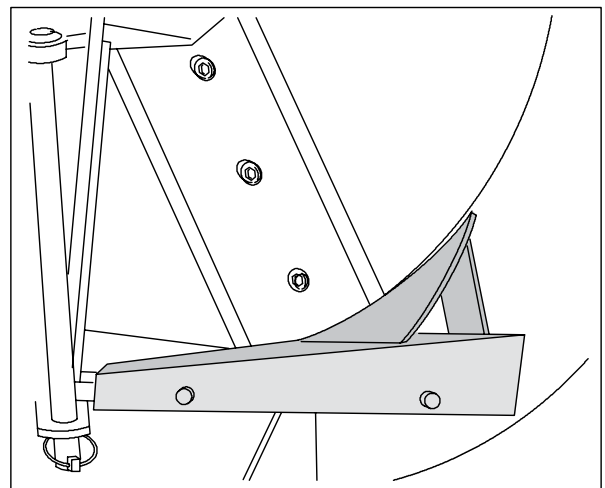

Fig. 4. Installing the adaptor piece
1. The hydraulic feeder and mechanical feeders include adaptor pieces that are installed between the chipper and feeder. The adaptor pieces are installed so that the two guide pins located at the bottom section of the feed opening go through the holes in the adaptor piece and secure the piece. See Fig. 4.